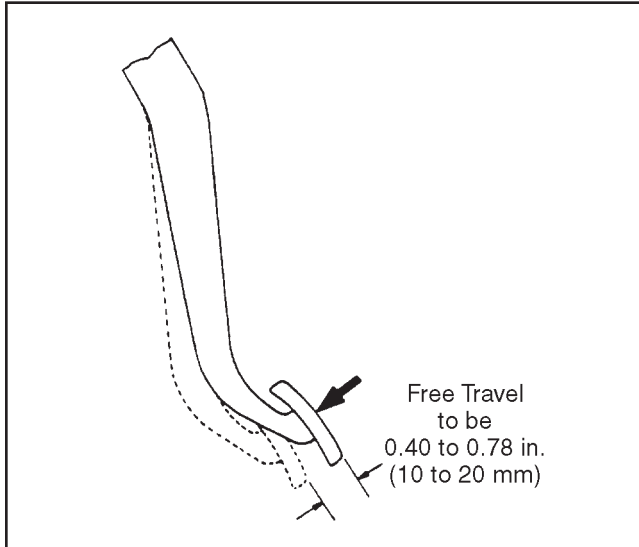

Figure 2C-25. Clutch Free Travel
1. Depress clutch pedal, stop as soon as clutch resistance is felt, and measure clutch pedal free travel as shown in Figure 2C-25.